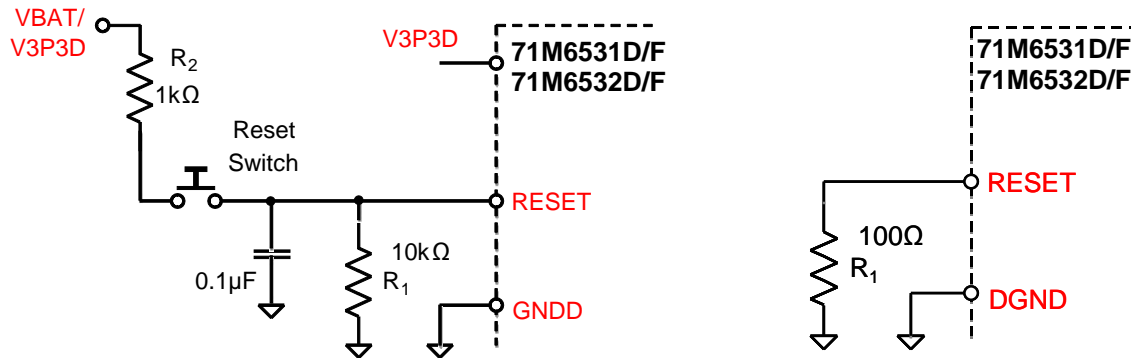

Figure 38: External Components for the RESET Pin: Push-button (Left), Production Circuit (Right)
Even though a functional meter will not necessarily need a reset switch, it is useful to have a reset push-button for prototyping as shown in Figure 38, left side. The RESET signal may be sourced from V3P3SYS (functional in MISSION mode only), V3P3D (MISSION and BROWNOUT modes), or VBAT (all modes, if a battery is present), or from a combination of these sources, depending on the application.
For a production meter, the RESET pin should be protected by the external components shown in Figure 38, right side. R₁ should be in the range of 100 Ω and mounted as closely as possible to the IC.
- ✓ Since the 71M6531 generates its own power-on reset, a reset button or circuitry, as shown in Figure 38, is only required for test units and prototypes.